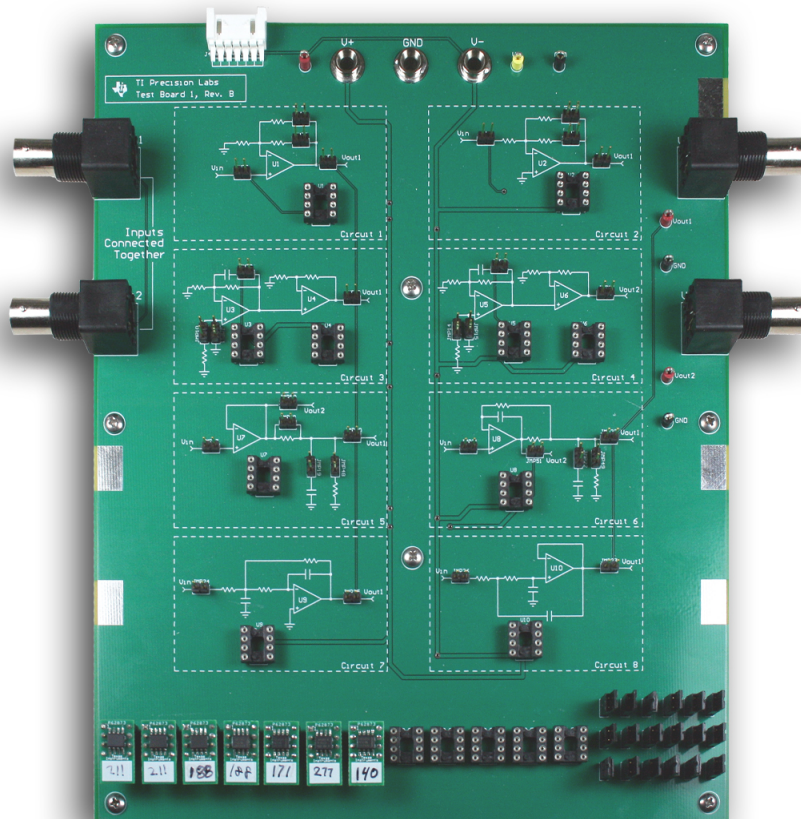

Figure 1. Hardware included with TI-PLABS-AMP-EVM Kit
Table 1 details the contents of the TI-PLABS-AMP-EVM kit, and Figure 1 shows all of the included hardware. Contact the Texas Instruments Product Information Center at (972) 644-5580 if any component is missing.